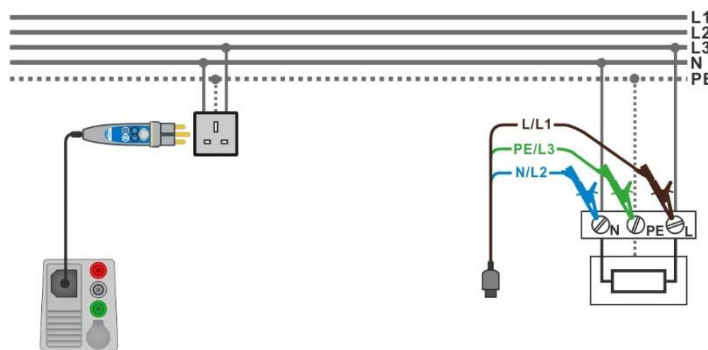

Figure 7.125: Connection of Plug commander and 3-wire test lead
- › Connect 3-wire test lead or Plug commander to the object under test, see **Figure 7.125**.